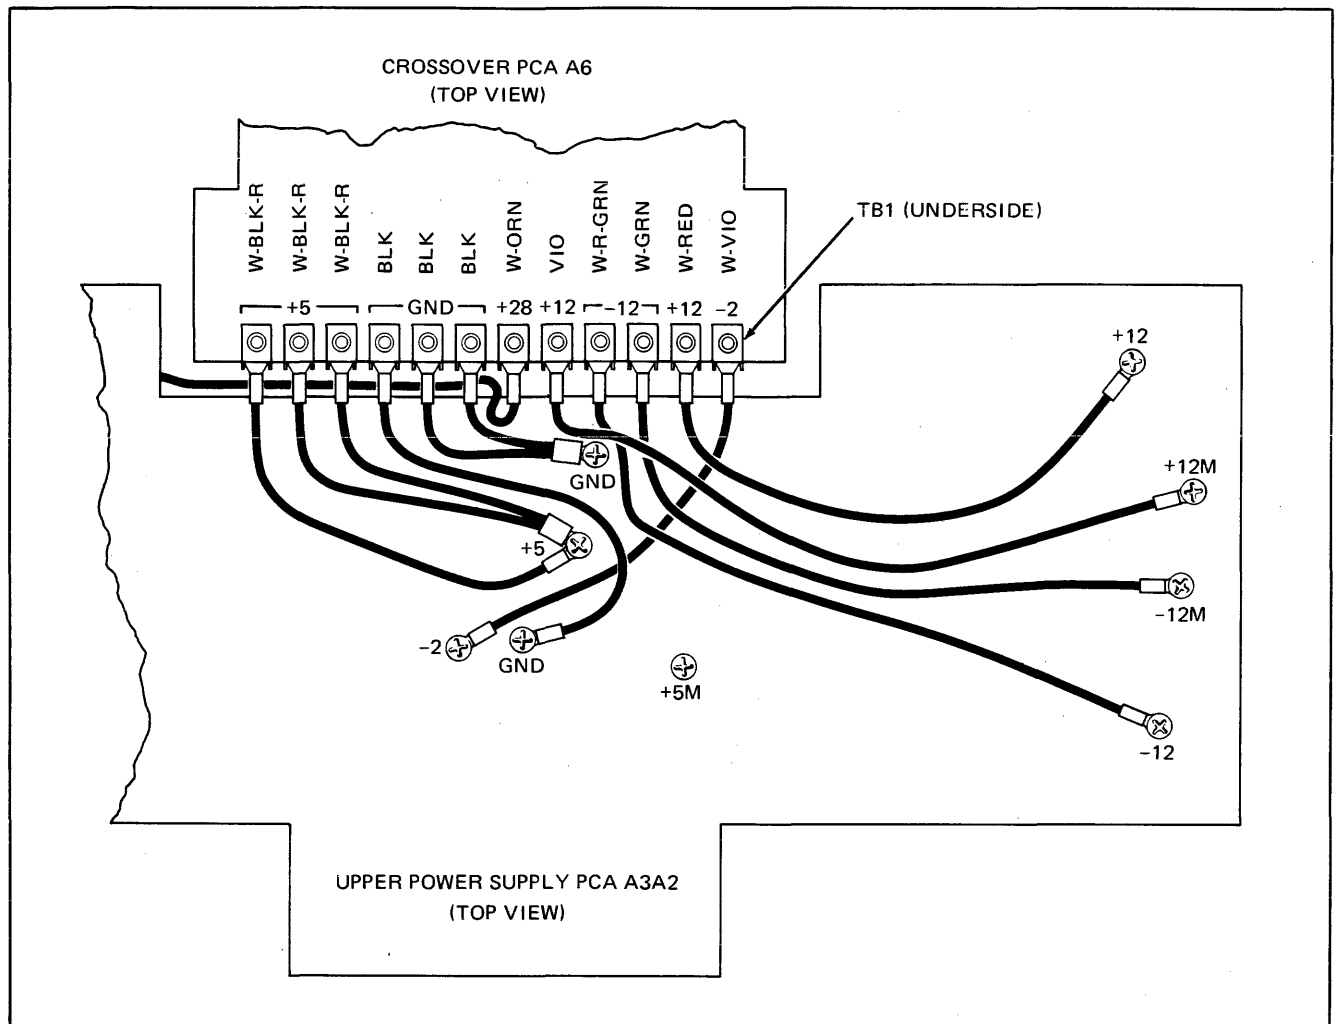
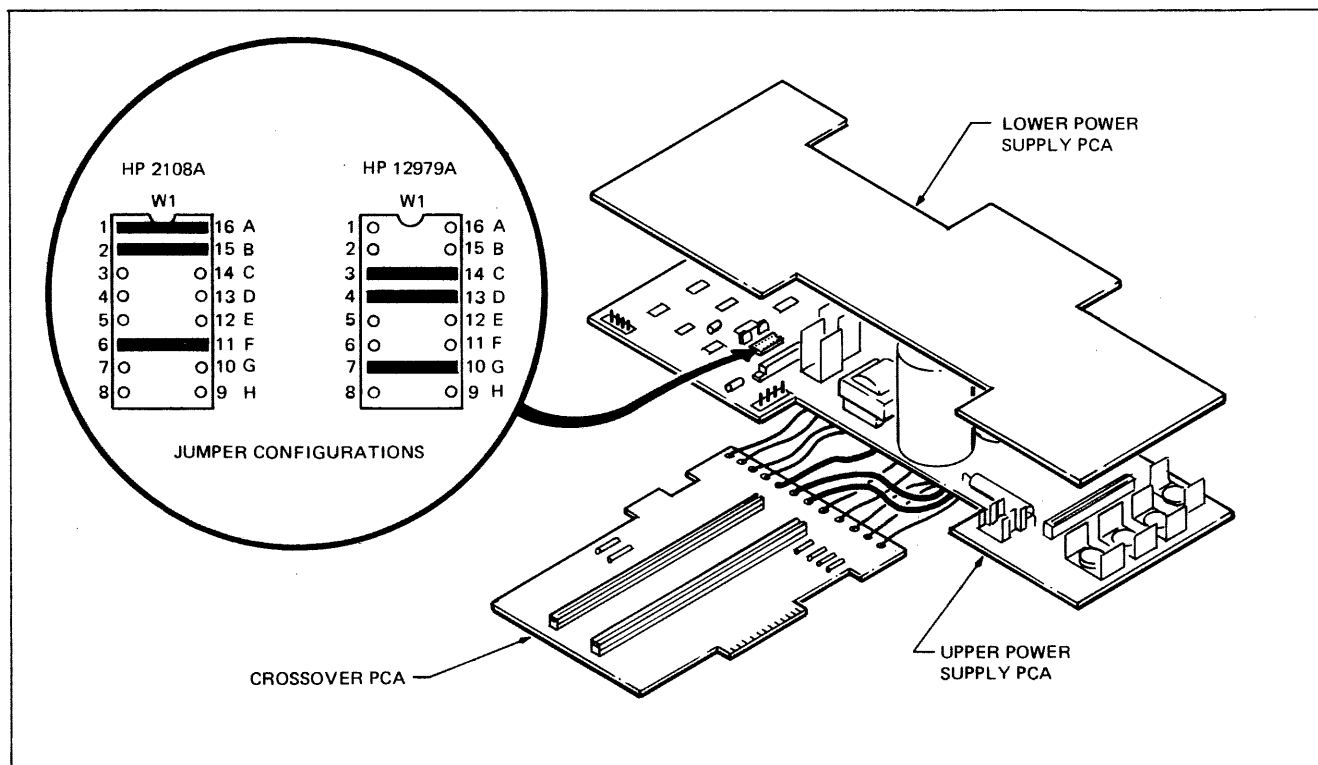
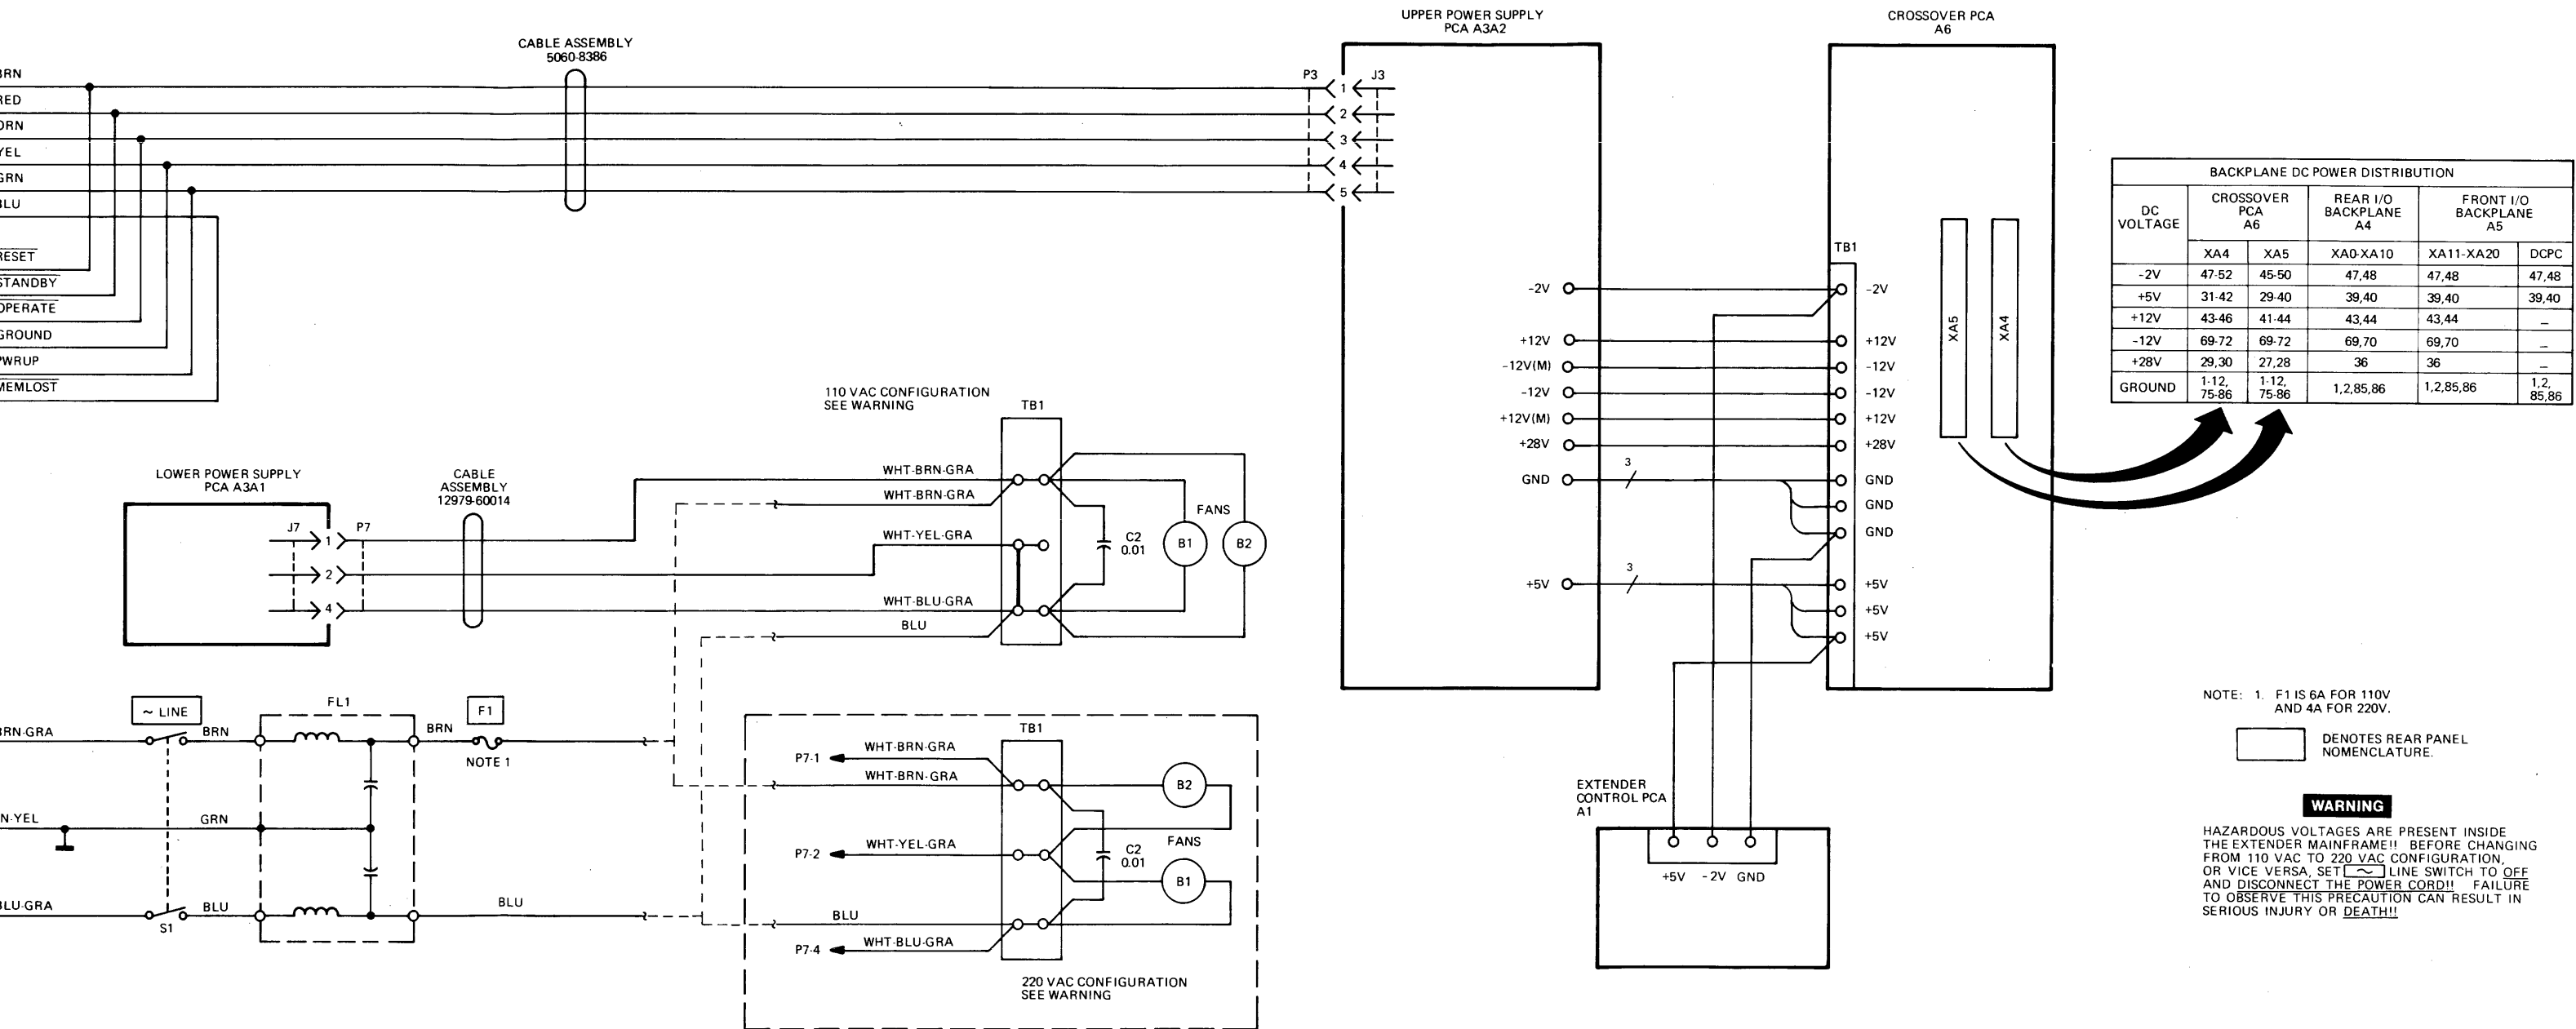

Figure 3-3. Crossover PCA Power Connections
Figure 3-4. Power Supply Jumper Configurations
Figure 3-5. Power Distribution Diagram
- c. Carefully lift crossover PCA to free it from backplane edge connectors; bend crossover PCA back to access terminal block TB1. (See figure 3-3.)
3-47. REPLACEMENT. If installing a replacement power supply, configure the jumpers located on the component side of upper power supply PCA as required for the HP 12979A I/O Extender. (See figure 3-4.) After configuring the power supply jumpers, replace power supply in the reverse order of the removal procedure. Attach the crossover PCA to the upper power supply PCA as shown in figure 3-3.
To reconfigure the extender to operate from 220-volt mains instead of 110-volt mains (or vice versa), refer to figure 3-5 and proceed as follows:
Figure 3-5 shows the wiring between the backplanes, power supply, and other extender subassemblies. The diagram is not complete in itself but must be used with figure 3-3 to determine the point-to-point wiring between the components illustrated.